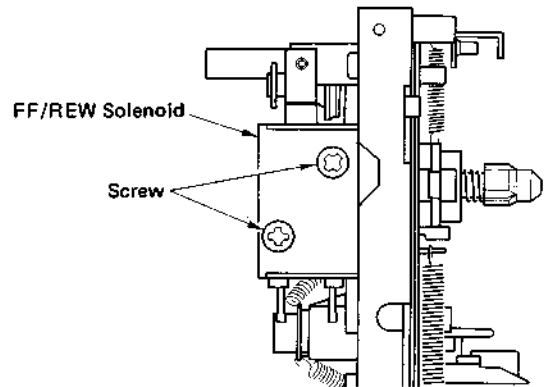

Fig. 11
- 7) To remove the FF/REW Solenoid, undo 2 screws shown in Fig. 11.